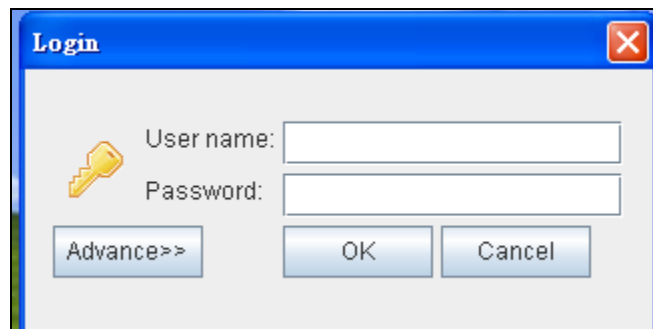

Figure 3-24 PL Client Icon and Login Window
- Double-click the **PL Client** icon on the PC desktop. It will pop-up a window to enter the user name and password. Please enter the default user name "**admin**" and password "**admin**". The login screen in Figure 3-24 appears.